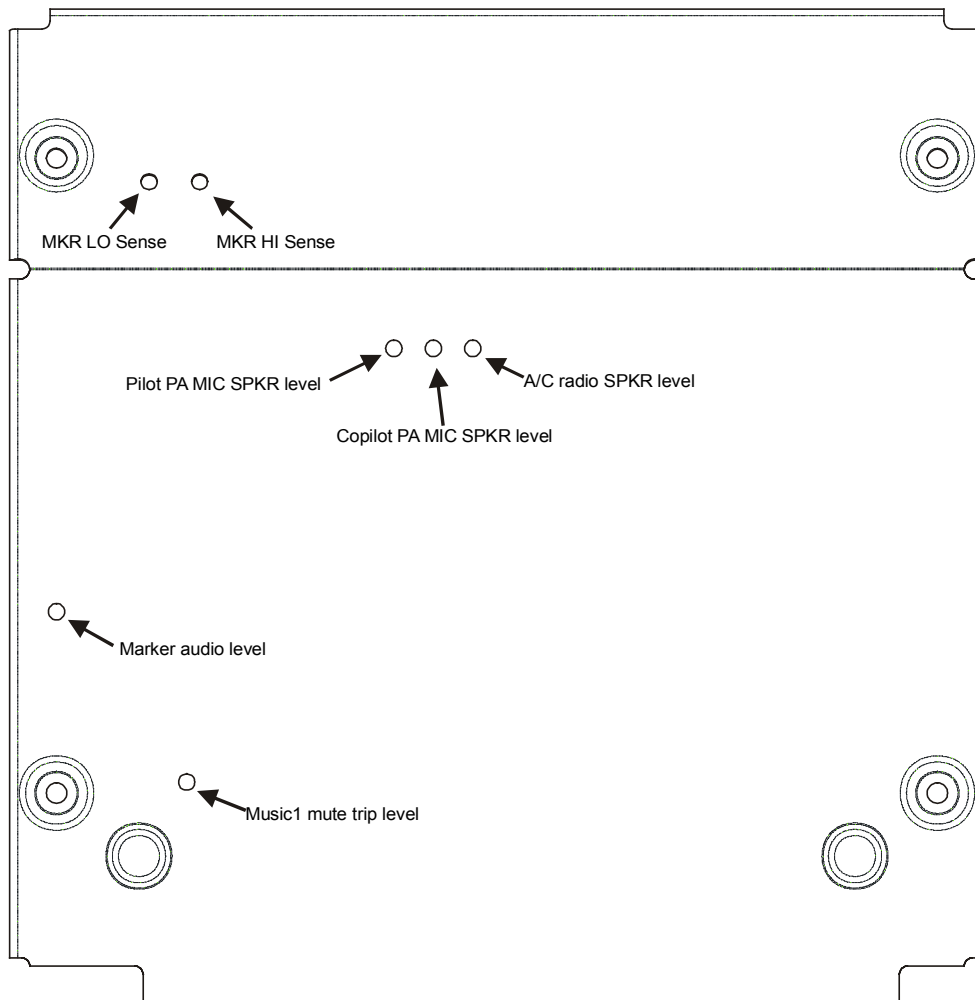

Figure 2-3. Access Hole Location (Top View)
Refer to figure 2-3 for the location of the access holes.
For the marker beacon sensitivity adjustments, CW increases the sensitivity. The LOW sensitivity can be adjusted without affecting the HIGH sensitivity setting. However, adjusting the HIGH sensitivity setting will affect the LOW sensitivity setting also. If the HIGH sensitivity setting is adjusted, then the LOW sensitivity setting should be checked and adjusted afterwards, if needed. If your GMA 340 top cover does not have the marker beacon sensitivity adjustment access holes as indicated in figure 2-3, and you need to adjust the sensitivity, contact Garmin for instructions.
Pressing the SPKR button (12) selects Aircraft radios over the cabin speaker. The speaker output is muted when a COM microphone is keyed. Speaker level is adjustable through an access hole in the top of the unit (see figure 2-3).
The PA mode is activated by pressing the PA button (11). Then, when either the pilot's or copilot's microphone is keyed, the corresponding mic audio is heard over the cabin speaker. If the SPKR button (12) is also active, then any selected speaker audio is muted while the microphone is keyed. The SPKR button does not have to be previously active in order to use the PA function. Pilot and copilot PA microphone speaker levels are adjustable through an access hole in the top of the unit (see figure 2-3).
MUSIC 1 is normally muted during ICS activity. However an installation option is available to disable ICS MUTE. When ICS MUTE INHIBIT* (J2 pin 13) is connected to ICS MUTE INHIBIT RETURN (J2 pin 14), muting of MUSIC 1 will not occur due to ICS activity. The MUSIC 1 mute trip level is adjustable through an access hole in the top of the unit (see figure 2-3).
The marker beacon audio level is aligned at the factory to produce its rated audio output. However, the output level is adjustable through an access hole in the top cover of the unit (see figure 2-3).